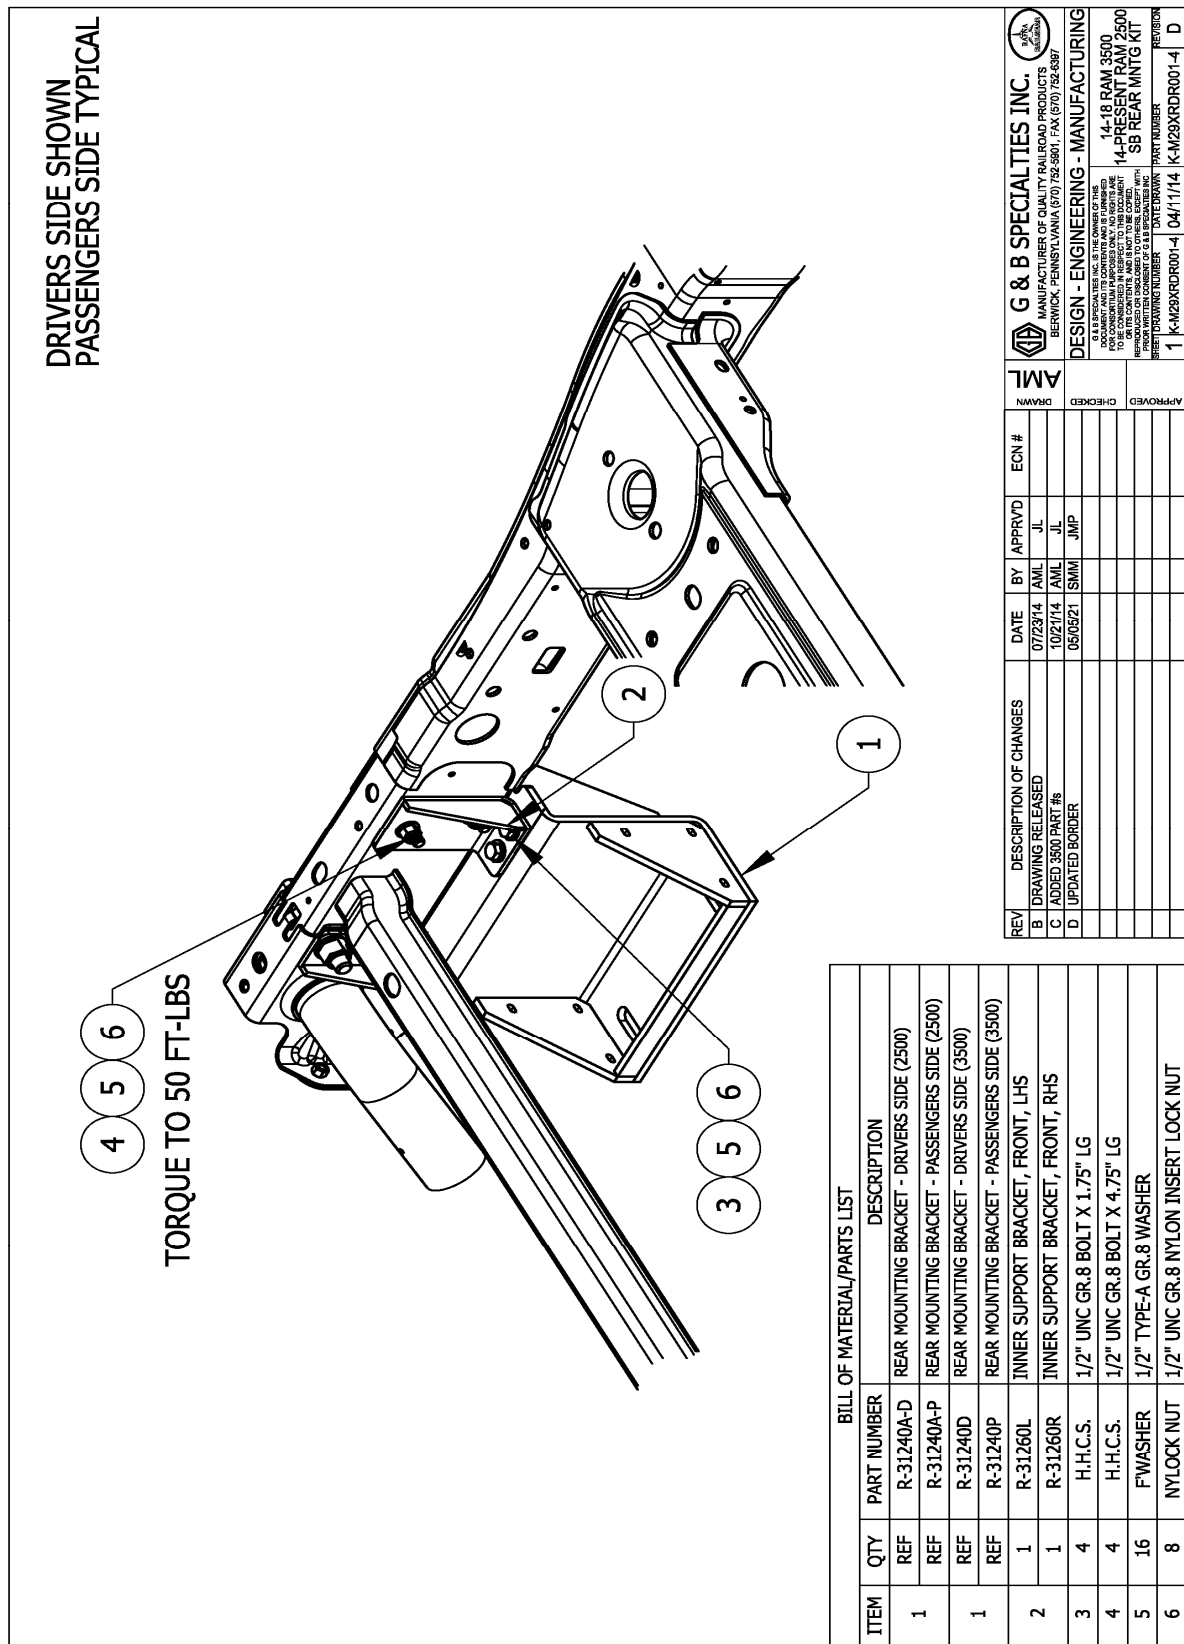

Figure 4 (2500/3500)
9. Complete the installation of the rear mounting bracket using the supplied 1/2" hardware and support bracket. (figure 4)